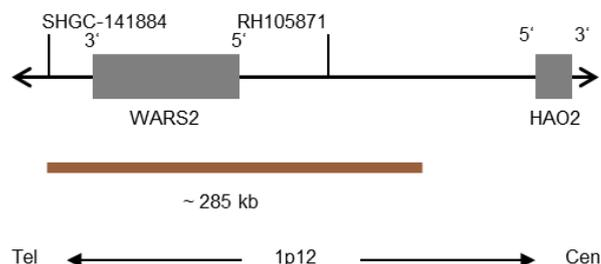

Fig. 1: SPEC 1p12 Probe map (not to scale)
- Digoxigenin-labeled polynucleotides (~1.8 ng/μl), which target sequences mapping in 1p12\* (chr1:119,537,082-119,664,354 [...] 119,712,804-119,823,167) (see Fig. 1).